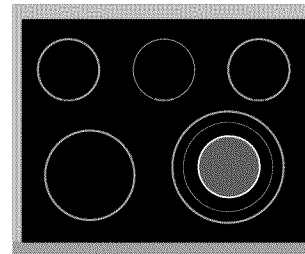

Figure 3 - Heating with inner portion only\*
2. Push in and turn the surface control knob clockwise to begin heating all, the inner, middle and outer portions of the element (Marked triple - see figure 1). If the two inner heating portions are needed turn the knob at position marked dual (Marked dual - see figure 2). If only inner heating portion is needed for smaller cookware, push in and turn the knob counterclockwise (Marked inner - see figure 3).